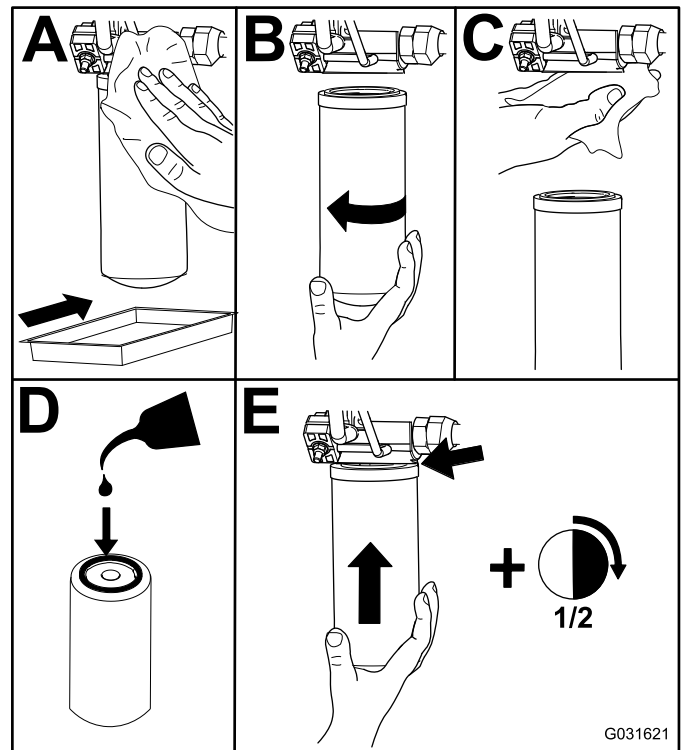

Figure 58
2. Replace both of the hydraulic filters (Figure 58).